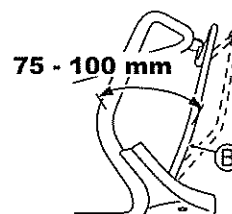

Fig. 26.
Adjust so that the machine runs (the drive clutch gets engaged) when the distance between Drive clutch lever (B) and the handle is 75 - 100 mm as shown in Fig. 26.